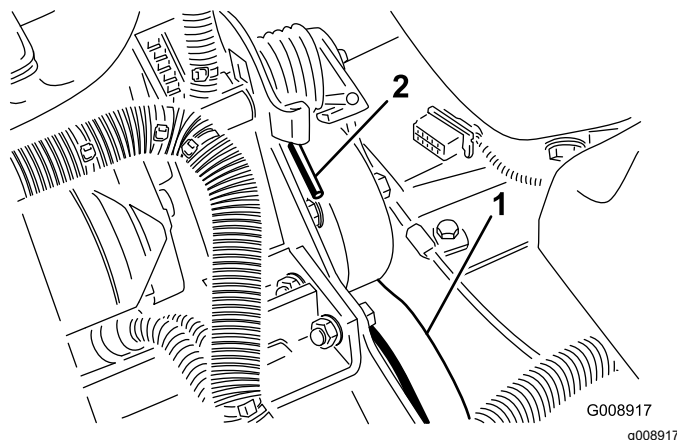

Figure 77
3. Push down and forward on the spring end (Figure 77) to unhook it from the bracket and release tension on the spring.